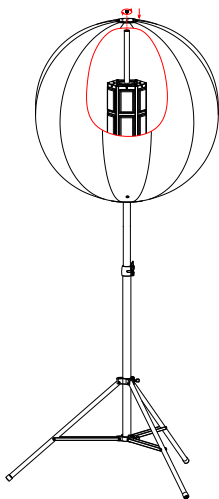

Fig.3 Envelope Zipper
- 3.Mount the lamp head onto the lamp pole with quick connector downward. (See Fig.3)